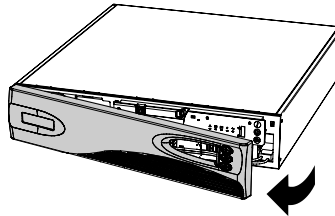

Figure 26. Removing the UPS Front Cover
1. Remove the UPS front cover by pulling on both ends (see Figure 26).